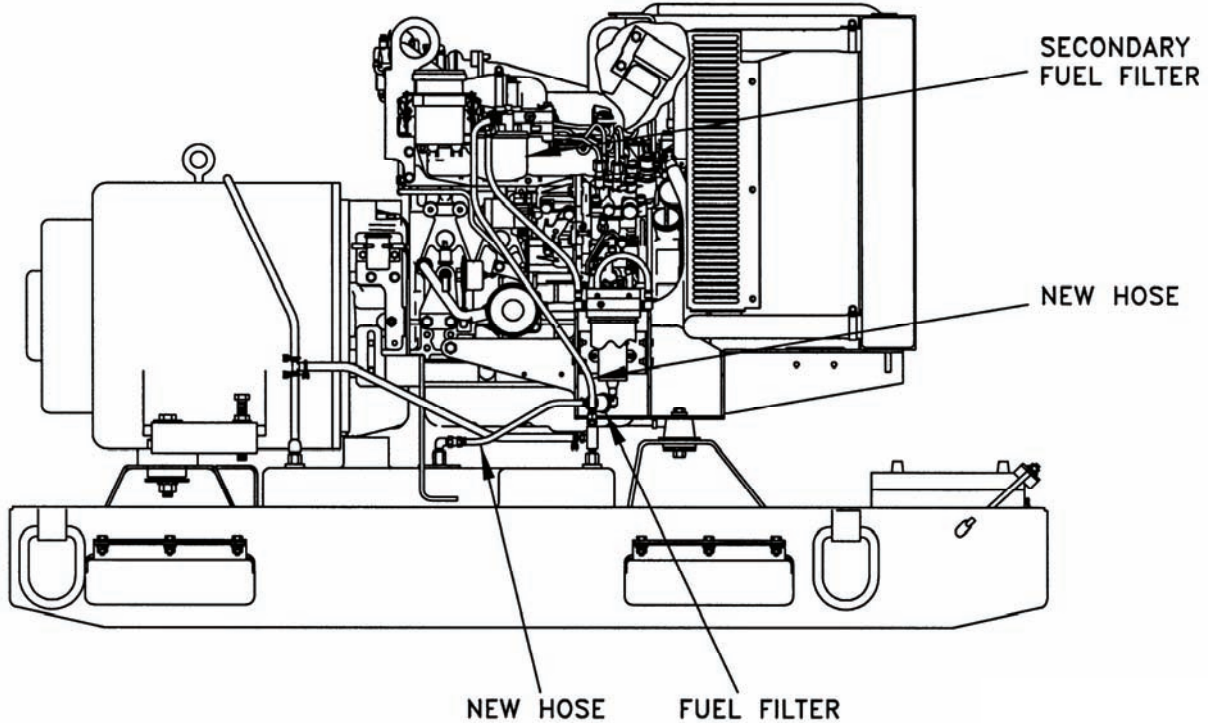

Figure 5-30. Fuel Line.
- a. Attach new hose tagged "To Fuel Filter Inlet" to fuel filter (Figure 5-30). Secure with hose clamp (Item 21, Table 5-1).